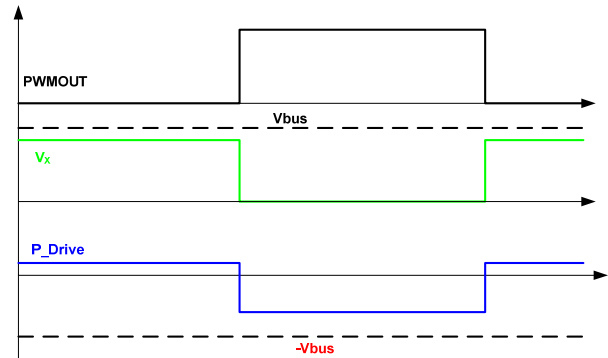
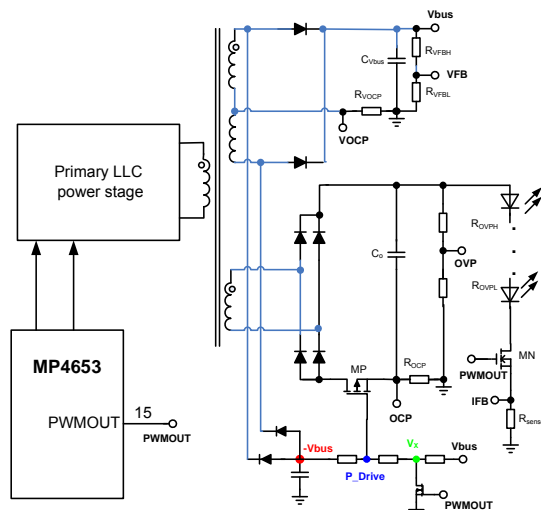

Figure 5B—Scheme of the PWMOUT Driving the P_MOS
Figure 5A—PWMOUT for the P_MOS Driver
The PWMOUT signal is also used to control the external P-MOS (MP) for protection, as shown in figure 5A. Figure 5B shows the operating scheme of this driving circuit. A negative voltage source ($-V_{bus}$) is generated from the secondary winding of DC bus stage. A pulse waveform at “ V_x ” is generated through the PWMOUT signal. By summing the negative voltage source and V_x , a pulse waveform with a negative magnitude is generated on “P_Drive” (the P-MOS gate) and is used to drive the P-MOS.